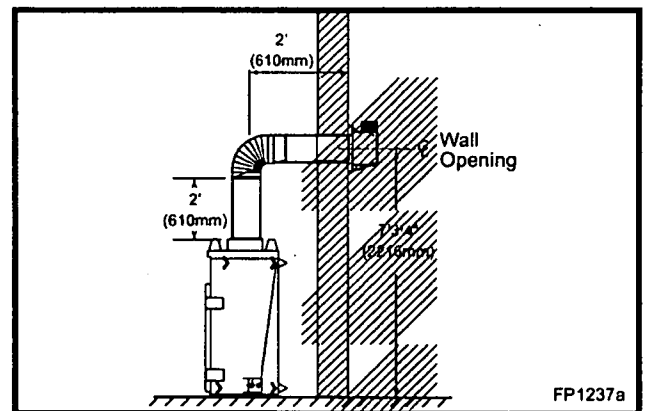

Fig. 18 Minimum vertical run / maximum horizontal run.
- The maximum number of 90° elbows per side wall installation is three (3), but must not have two (2) consecutive elbows in the horizontal plane.
- A minimum of 2' (610mm) vertical section off the top of the unit is required, an elbow and a 1' (305mm) maximum horizontal run to get through a wall. (Fig. 18)